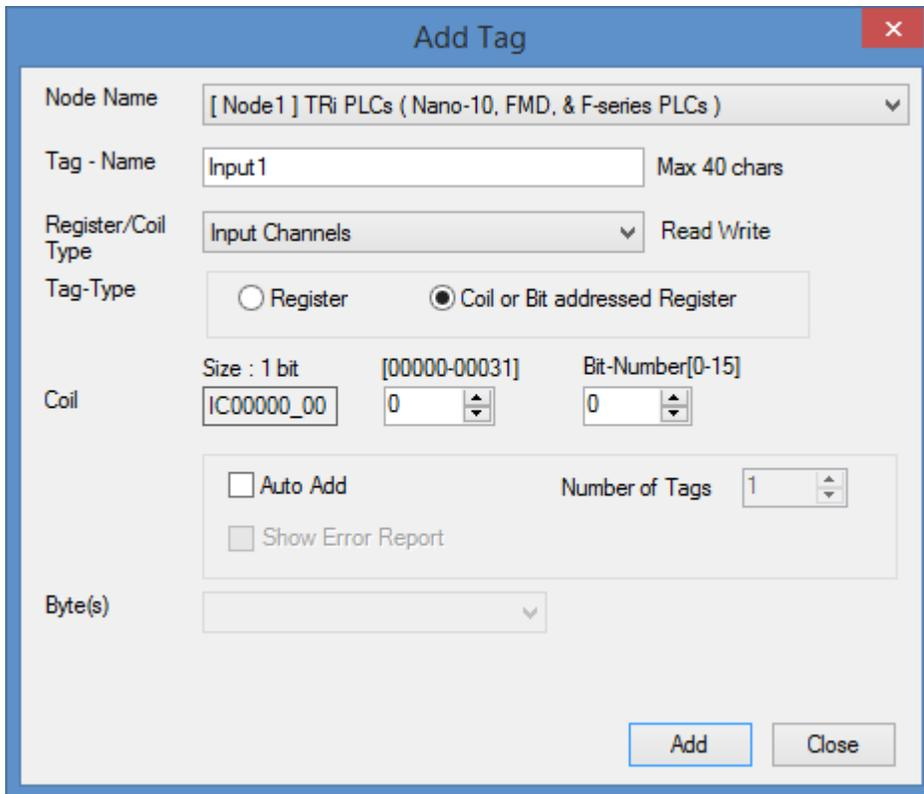

Figure 3: Tag Configuration Window- Create Input 1 Bit
1. Select the “Register/Coil Type” from the drop down menu. As shown in Figure 3, the input register is chosen for this example.
3. Change the tag name to anything. Input1 was used in Figure 3.
4. Select the register and bit from the Coil field as shown in Figure 3.